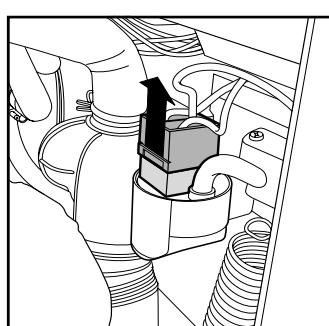

Fig. 3
3. Disconnect the electricity supply to the radio interference suppresser by removing the connector (fig. 3).